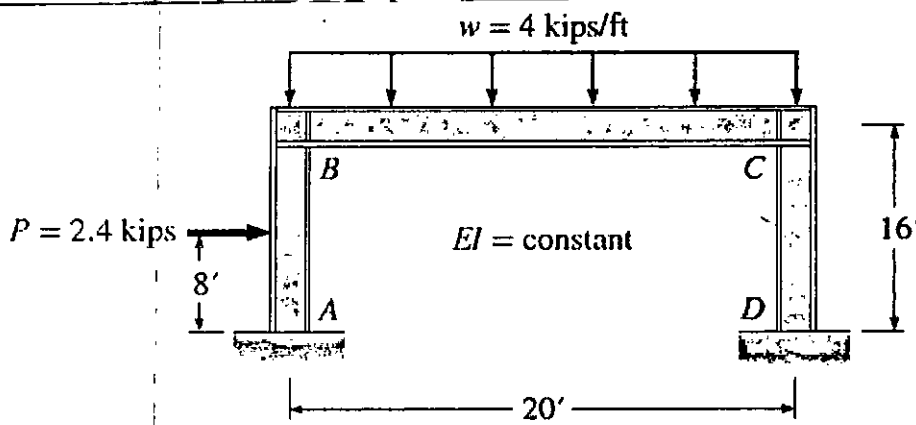

Fig. 8(b)
(a) Analyze the frame by moment-distribution method and draw the bending moment diagram for the frame loaded as shown in Fig. 8(a). (22)
(b) Analyze the frame in Fig. 8(b) by moment-distribution method. Draw the shear force and bending moment diagrams for the frame. Given:  $E = 30,000$  ksi and  $I = 300$  in4 for all members. (22)